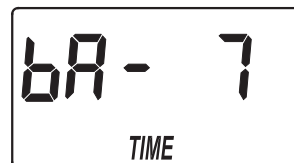

FIG. 26
2. Press the SELECT/MENU button once, so that "bA TIME" appears in the display (See Figure 26).